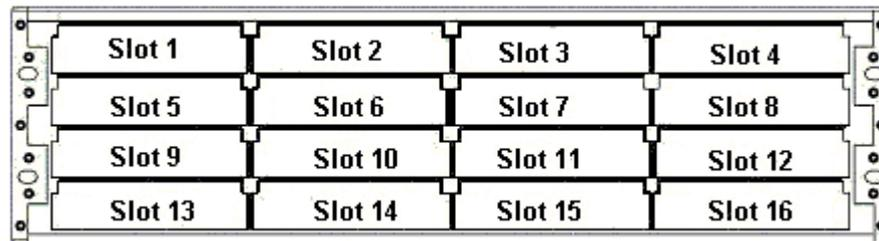

Figure 1-4: Hard Drive IDs
The front panel of the ES A16F enclosure houses sixteen (16) hard drives in a 4x4 configuration as shown in *Figure 1-4*. When viewed from the front, the drive bays (slots) are numbered 1 to 16 from left to right, from top to bottom.